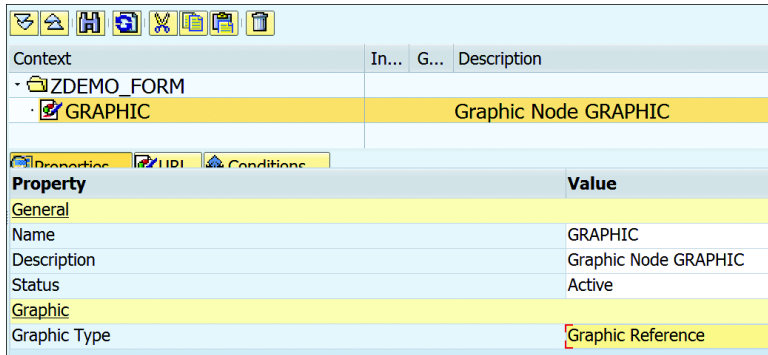

Figure 18.78 Graphic Node
1. Right-click the root folder and select **CREATE • GRAPHIC**. This will add the GRAPHIC node under the root folder, as shown in Figure 18.78.